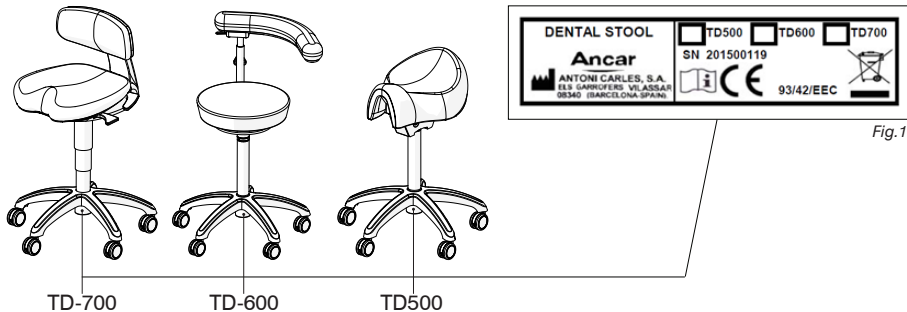

Fig.1
Every Ancar dental stool is identified with an information tag (Fig.1.)
- Mount the 5 wheels to the TD-700 aluminium foot by introducing the wheels axle **A** (Fig.1) to the foot holes **B** (Fig.1) and press firmly against the foot.